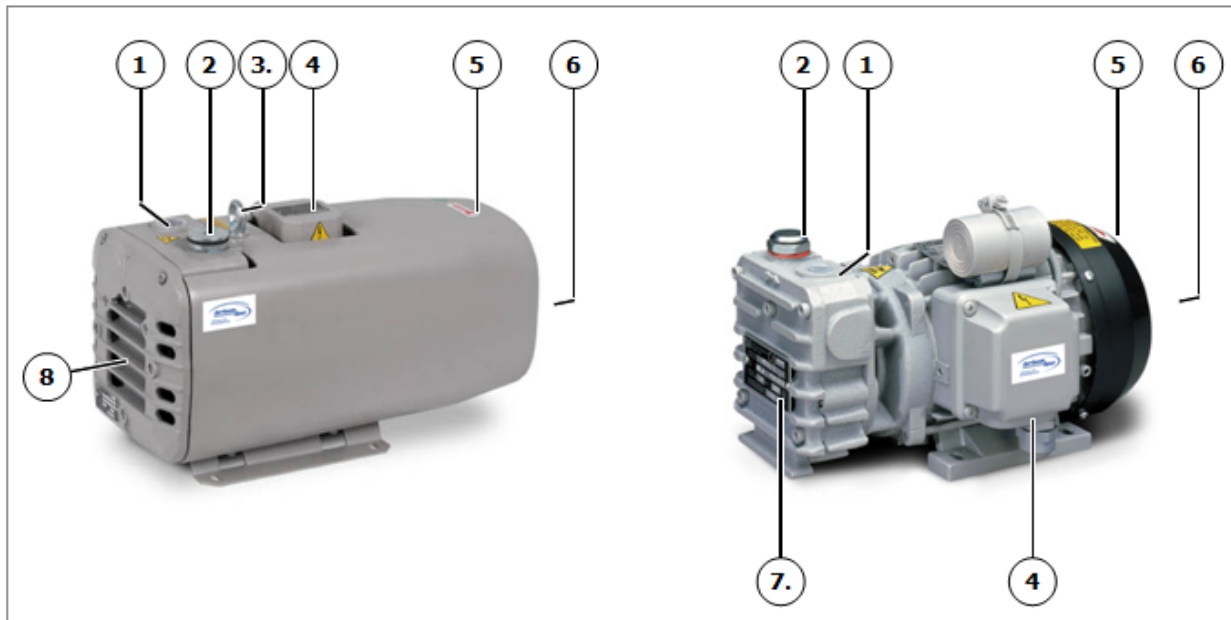

Fig. 4 Principle components of the ZIRKON V
The machines of the ZIRKON series have suction and exhaust sides, each with a connecting thread (item 1 and 2, Fig. 4).
The D040 series machines ZIRKON V may only be suspended by the designated eyebolt (item 3, Fig. 4).
All parts listed with the item number refer to the illustration, fig. 4 on page 12.
1. Vacuum line connection, item 1, Fig. 4.
1. Start engine and check the rotation direction of the arrow on the housing, see item 5, Fig. 4.